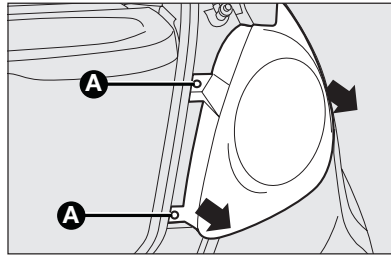

fig. 19
- unscrew the two fastening screws **A-fig. 19** and extract the light cluster axially without rotating it;